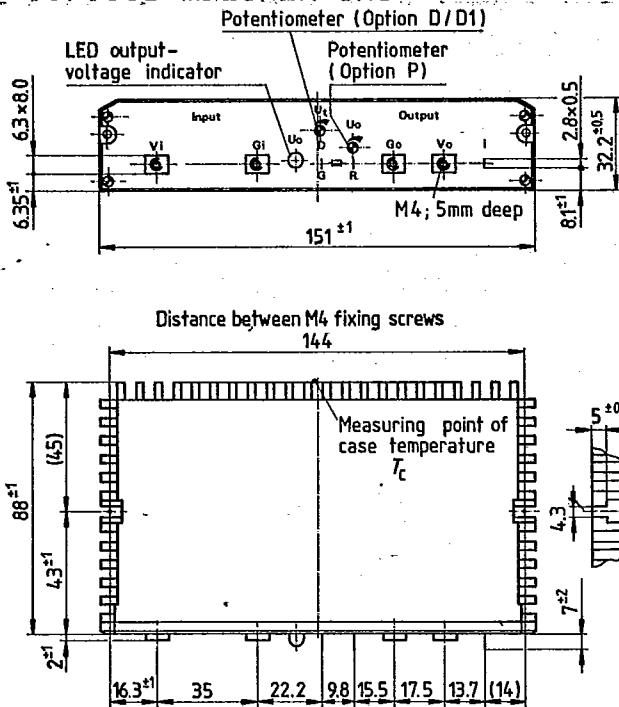

Fig. 17
- Option M: Screw terminals instead of Faston connectors for Vi, Gi, Vo and Go; available for case C03. See Fig. 17.